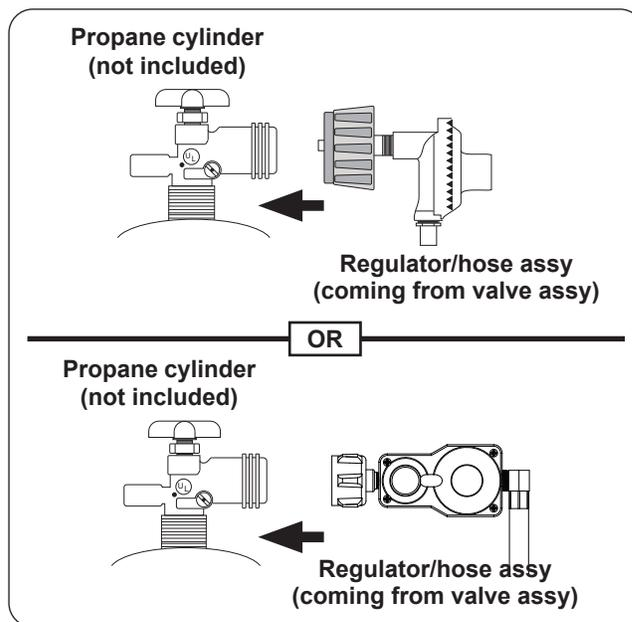

Fig. 38-1 Connecting to an L.P. cylinder
2. Attach the regulator end of the hose assembly to a propane cylinder (not included) and tighten (see Fig. 38-1).